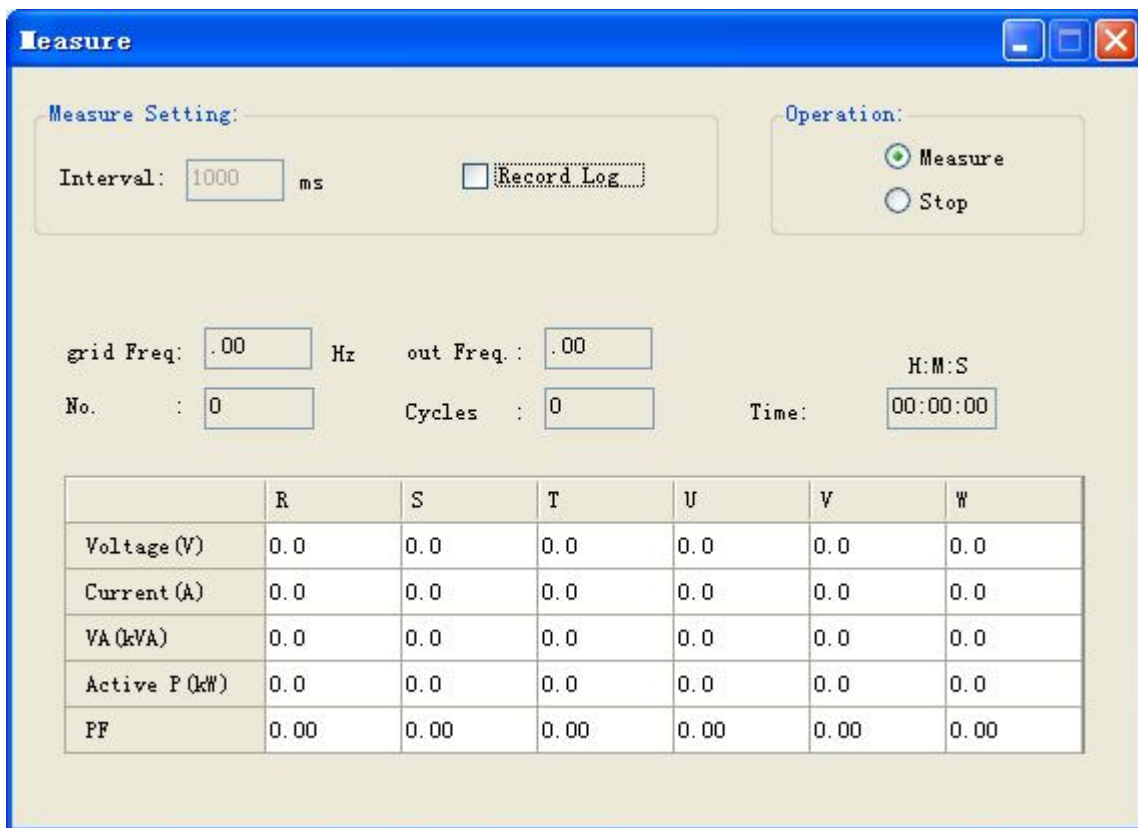

Fig. 5-13 Menu of “Measure” under remote control
(4) In the menu of “General”, click on **【measure】** will enter the menu of “measure”, as shown in Fig. 5-13: